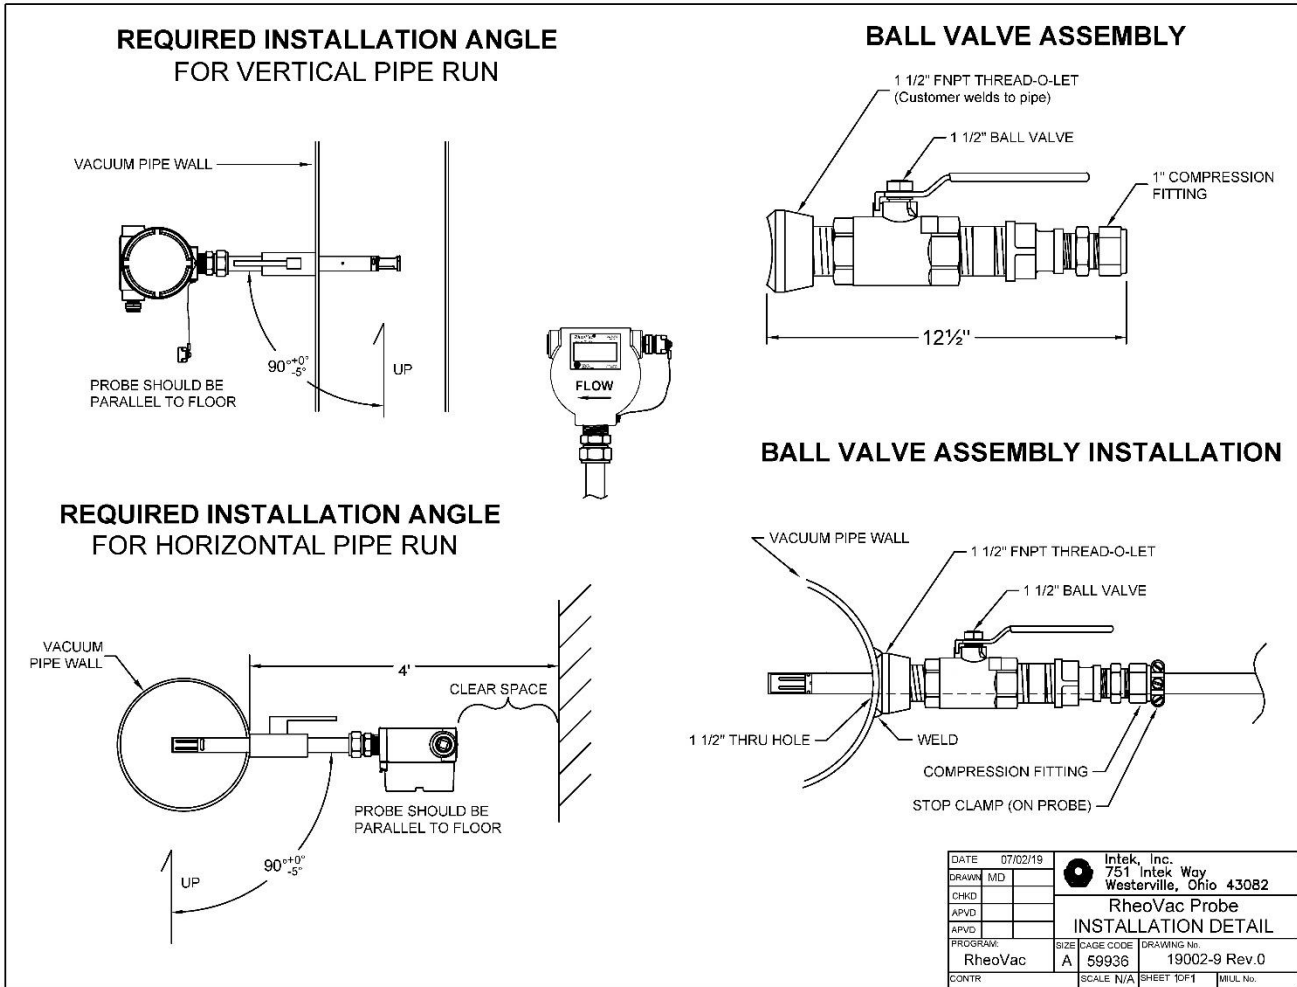
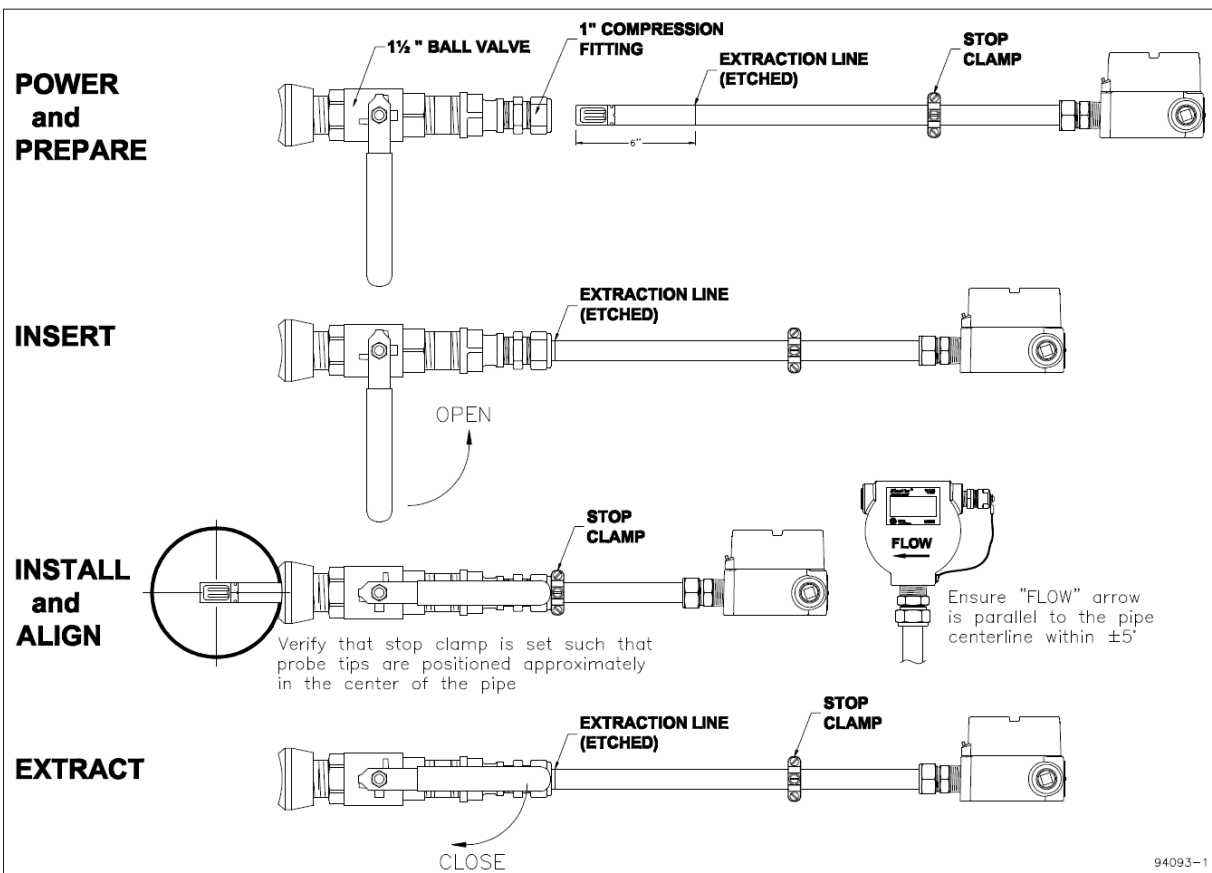

Figure 2: RheoVac MSP ball valve assembly installation detail
Figure 3: Installing and removing probe instruments
3. Verify there is a minimum probe insertion clearance of 4 feet (1.3m) between pipe surface at the tap location and any obstruction, refer to Figure 2.
4. Verify installation site is parallel to the floor, refer to Figure 2.
2. Install mounting hardware. Drill a 1½" through-hole, center the thread-o-let over the hole and weld it onto the condenser vacuum pipe (see Figure 2). Thread the ball valve assembly into the thread-o-let. Use thread tape or pipe dope to seal the connection (Alternate: weld thread-o-let to pipe wall, then drill a 1¼" hole in pipe wall using a hot tap drill).
3. Make sure the probe installs parallel to the floor (see Figure 2).
### 2.1.1.3 Installing/Removing Probe Instruments – refer to Figure 3
2. **Prepare** each probe. Verify stop clamp location (see Figure 3). It is important that the stop clamp is securely in place which determines the position of the multi-sensor assembly and ensures that the probes do not contact the opposite pipe wall. Contact with the pipe wall could damage the probe. The clamp's location is set at the factory and is marked with a groove or etched line on each probe shaft. This location roughly places the thermal mass flow elements (two metal probe tips) in the center of the pipe. Refer to this mark if a stop clamp is inadvertently moved. Loosen the compression nut on the thermocouple connector of the ball valve assembly and clean the inner surface of the thermocouple connector to ensure it is free of particles that may cause probe damage.
6. When removing the probe, loosen the compression nut on the thermocouple connector of the ball valve assembly and slowly extract the probe until the Extraction Line is visible (see Figure 3). This indicates that the probe is clear of the ball valve. Close the ball valve, then remove the probe from the assembly.
The PT probe(s) is installed through a ball valve similar to that shown in Figure 2 and Figure 3. Special instructions, where applicable, are provided by Intek (see SECTION 8 - CUSTOM INFORMATION).